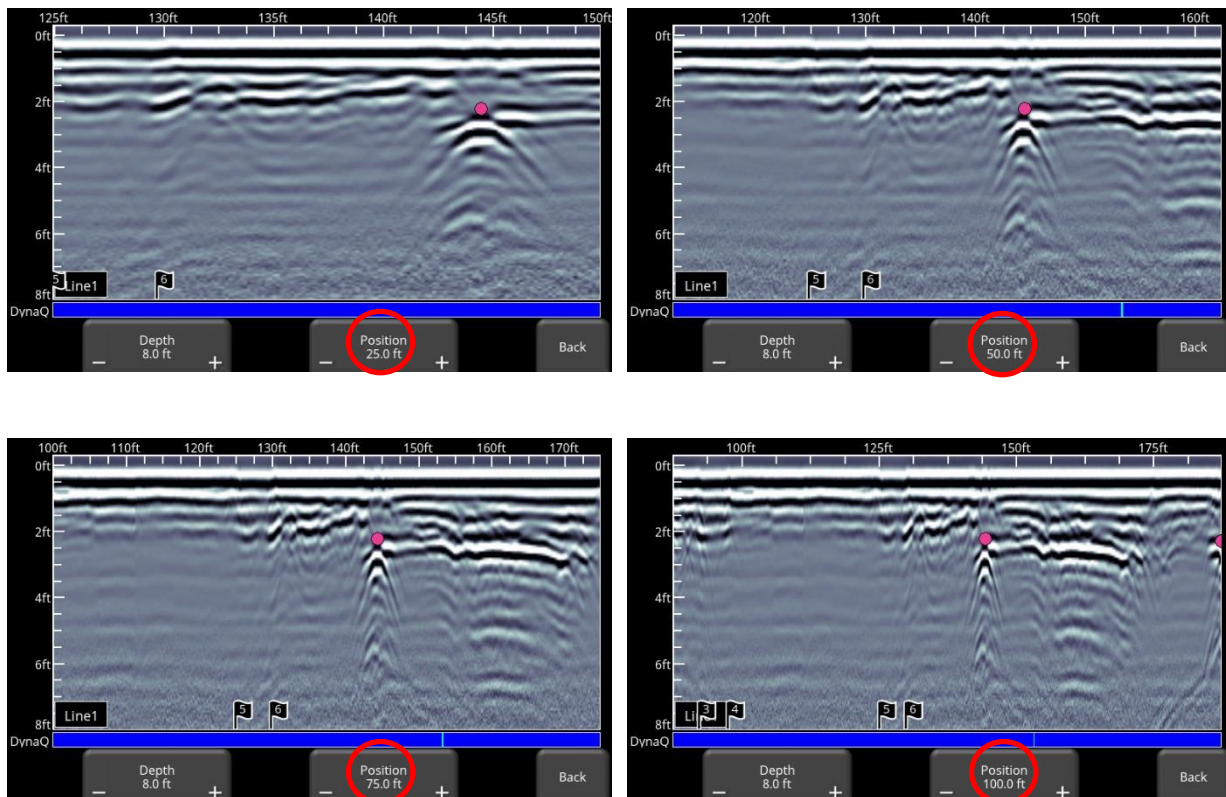

Figure 6-13: Varying position, or horizontal scaling
- Position** – Pressing **+** and **-** under the **Position** button allows you to change the length of data displayed on a single screen. This is also known as horizontal scaling. The preset values range from 5m to 30m (10' to 75'), see Figure 6-13.